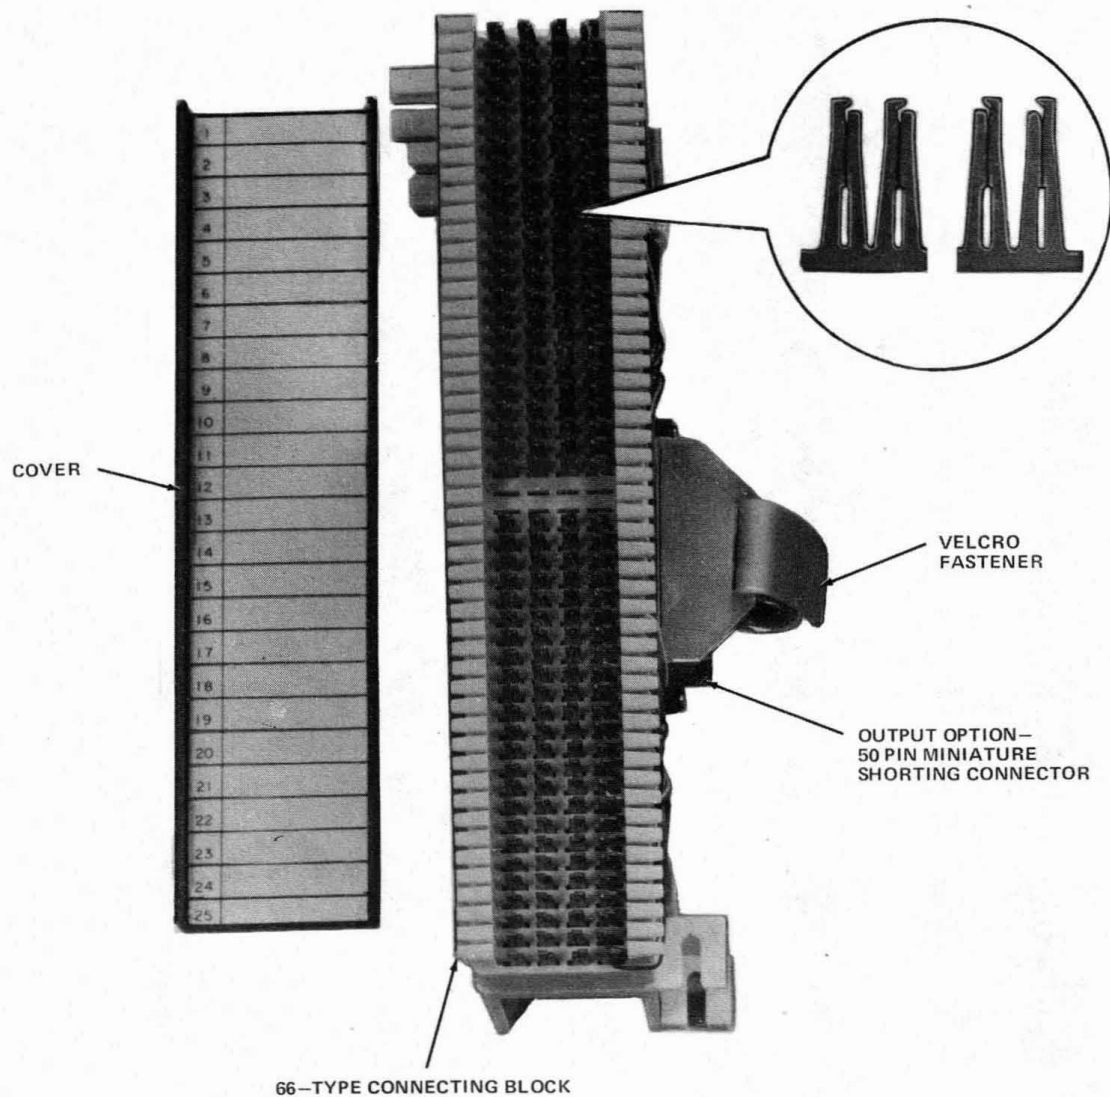

Fig. 4—700B-66-B1-12 Jack
2.07 The 700B-66-B1-12 jack (Fig. 4) is also a special purpose interface (USOC RJ71C). It allows customer equipment to be placed in series with terminal equipment for control, intercept, accounting, or measuring purposes. There is a 66-type block for input and output to terminal equipment, and a 50-pin ribbon connector for customer special purpose